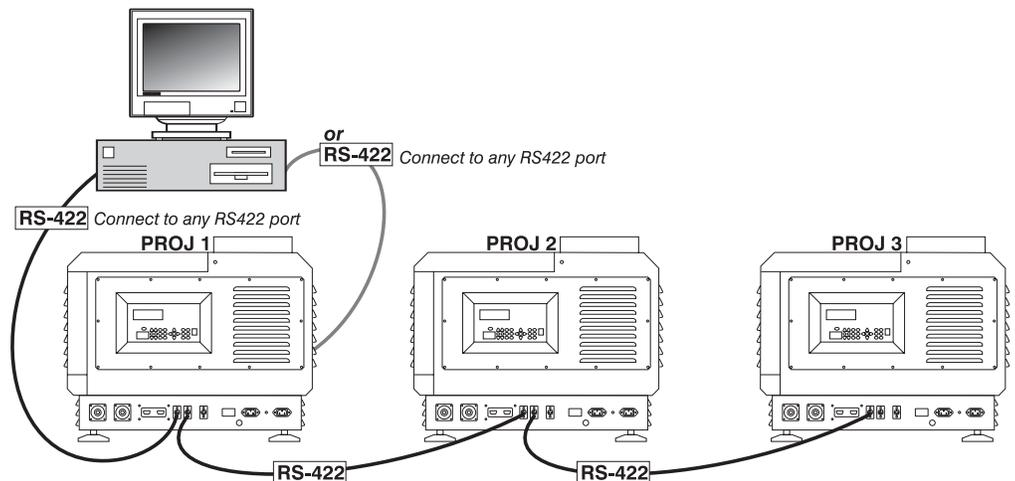

Figure 2.33. Typical RS422 Network
**RS422 NETWORK:** To control multiple projectors with a computer/controller having an RS422 interface, first set them all to the same baud rate as the controller, then chain the projectors together by connecting an **RS422** port of the first projector (already connected to the computer/controller) to an **RS422** port on the next projector in the chain. Use any of the three RS422 ports available on the projector—two are at the rear (6-pin XLRs), and one is on the side input panel (9-pin D-connector). Continue connecting projectors in this manner until you've reached the last projector in the chain, so that only the last projector has two unused **RS422** ports. See Figure 2.33.